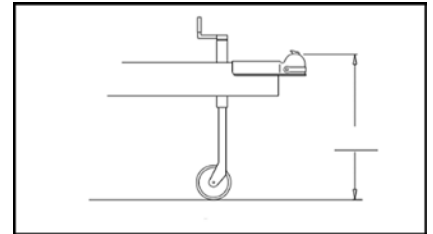

Figure 1: On a level surface, measure the height of your trailer coupler to ground.
•Line up tow vehicle and trailer on level pavement, in straight-ahead position, uncoupled. Level the trailer and measure and record the distance from the ground to the top of the coupler (see Figure 1).
•NOTE: The ball height should be greater than coupler height by approximately 3/4" to 1" (see Figure 1) to compensate for vehicle squat. For vehicles with air springs, air shocks or an automatic leveling system, check vehicle owner's manual. Unless otherwise specified make sure you adjust the ball mount and do the trailer set up with the trailer and vehicle loaded as they will be when towing. Raised balls usually have reduced load ratings. Ball rating MUST equal or exceed trailer GVWR.
•Pin ⑭ and seven spacer washers ⑬ are supplied in order to gain correct downward angle of spring bars. For an initial fitment, try four spacer washers for top mounted couplers and three spacer washers for bottom mounted couplers. Insert pin ⑭ and depending on angle or slope of bars that must be gained, use the least amount of washers ⑬ necessary in order to establish correct angle. (See Figures 1, 2, and 3).
•The pin ⑭ and its accompanying washers ⑬ are placed in the 1/2" hole between the "U" on ball mount 1 to acquire desired angle of spring bar ④. Once spring bar ④ angle has been determined, insert top bolt ⑩ with serrated washer ⑮. Install second serrated washer ⑮ and nut ⑫ to secure unit in correct position. Before tightening bolts, lock (tighten) ball mount set screw. Tighten the 3/4" top bolt ⑩ to 260 ft. lbs. torque once head angle is set. Secure lower bolt ⑩ to 260 ft. lbs. torque. After first day of towing, check ball mount set screw for tightness.